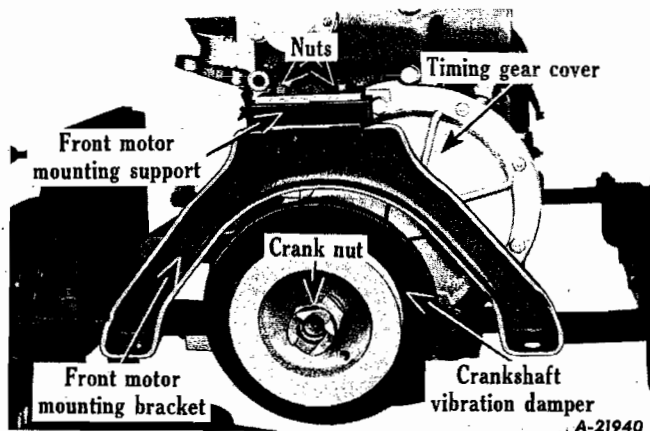
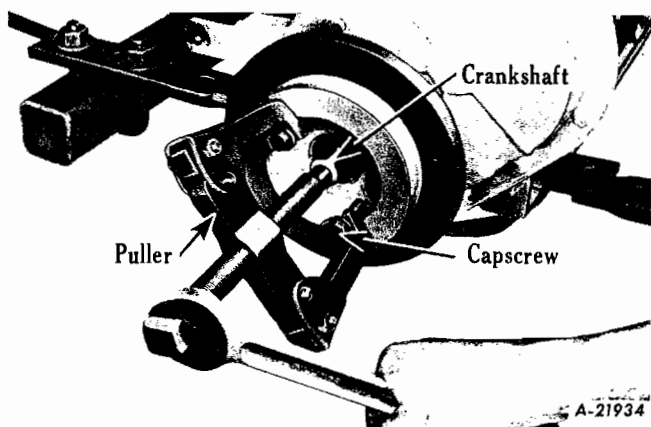
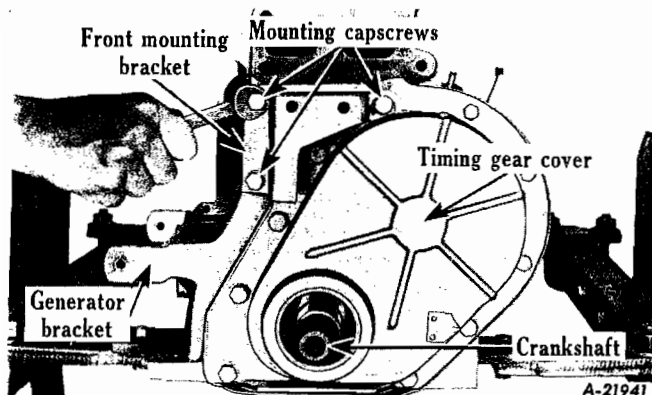

Fig. 20
Fig. 21
Fig. 22
1. Remove front motor to frame bracket by removing two nuts on top side (Fig. 20). Remove fan drive pulley nut and washer from end of crankshaft. Install puller and remove crankshaft fan drive pulley from crankshaft (Fig. 21). Remove 4 capscrews holding motor mounting bracket to block (Fig. 22).